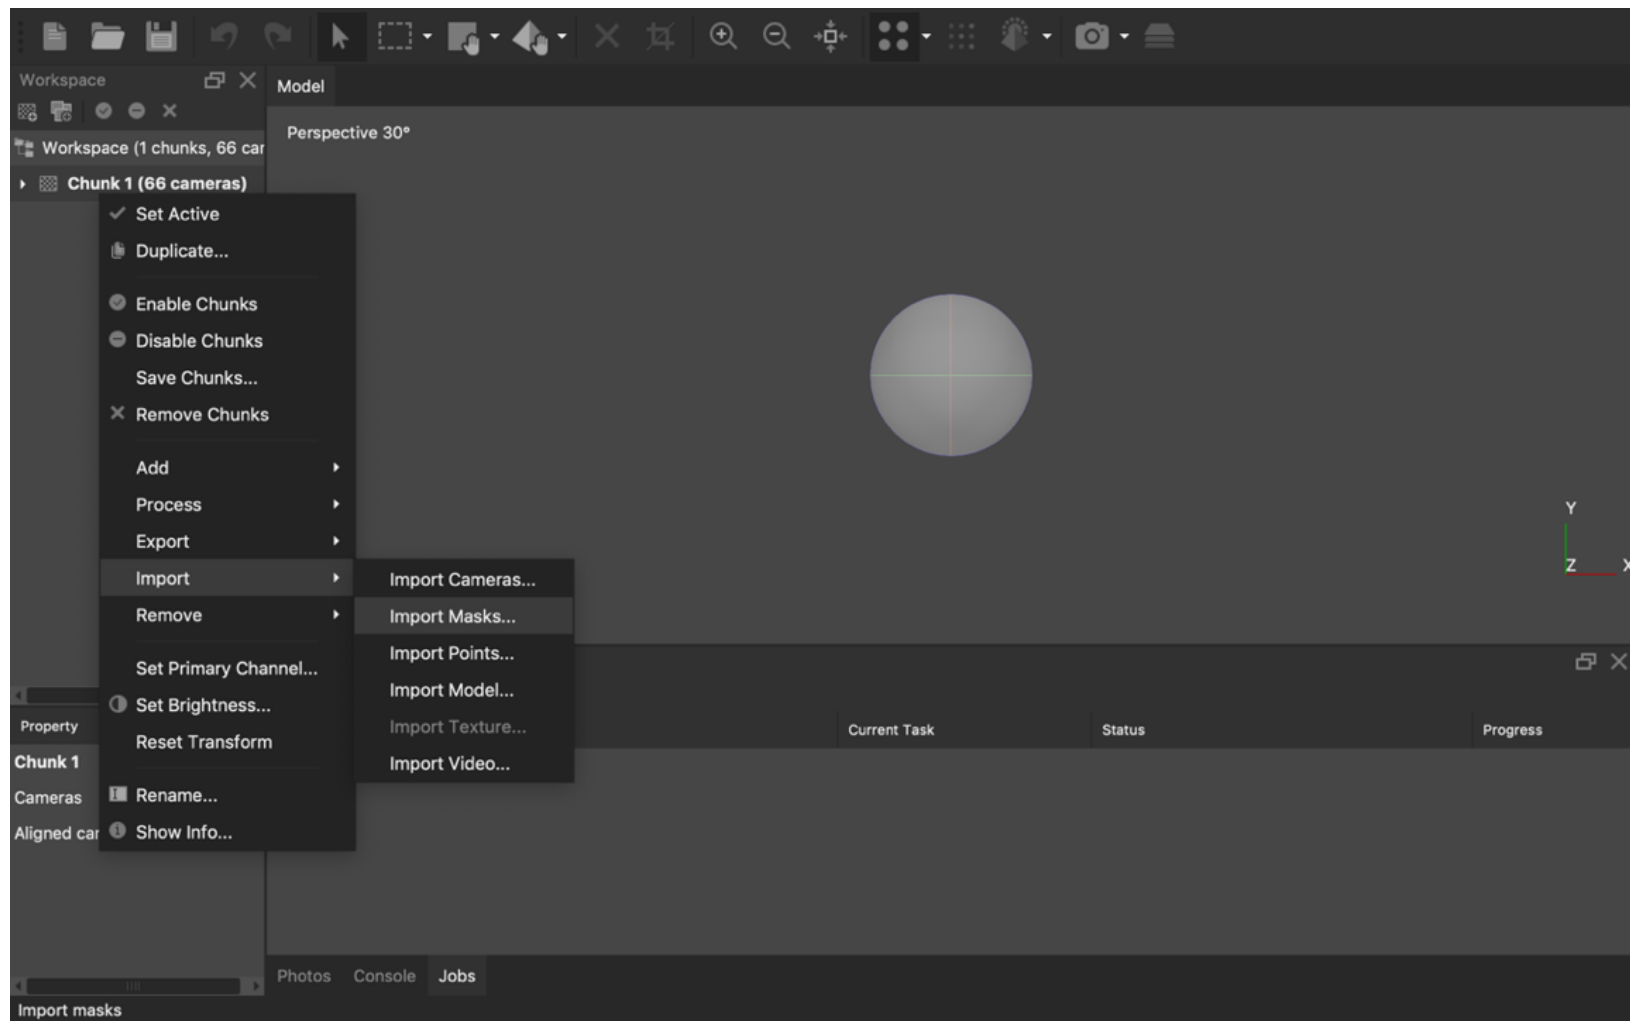
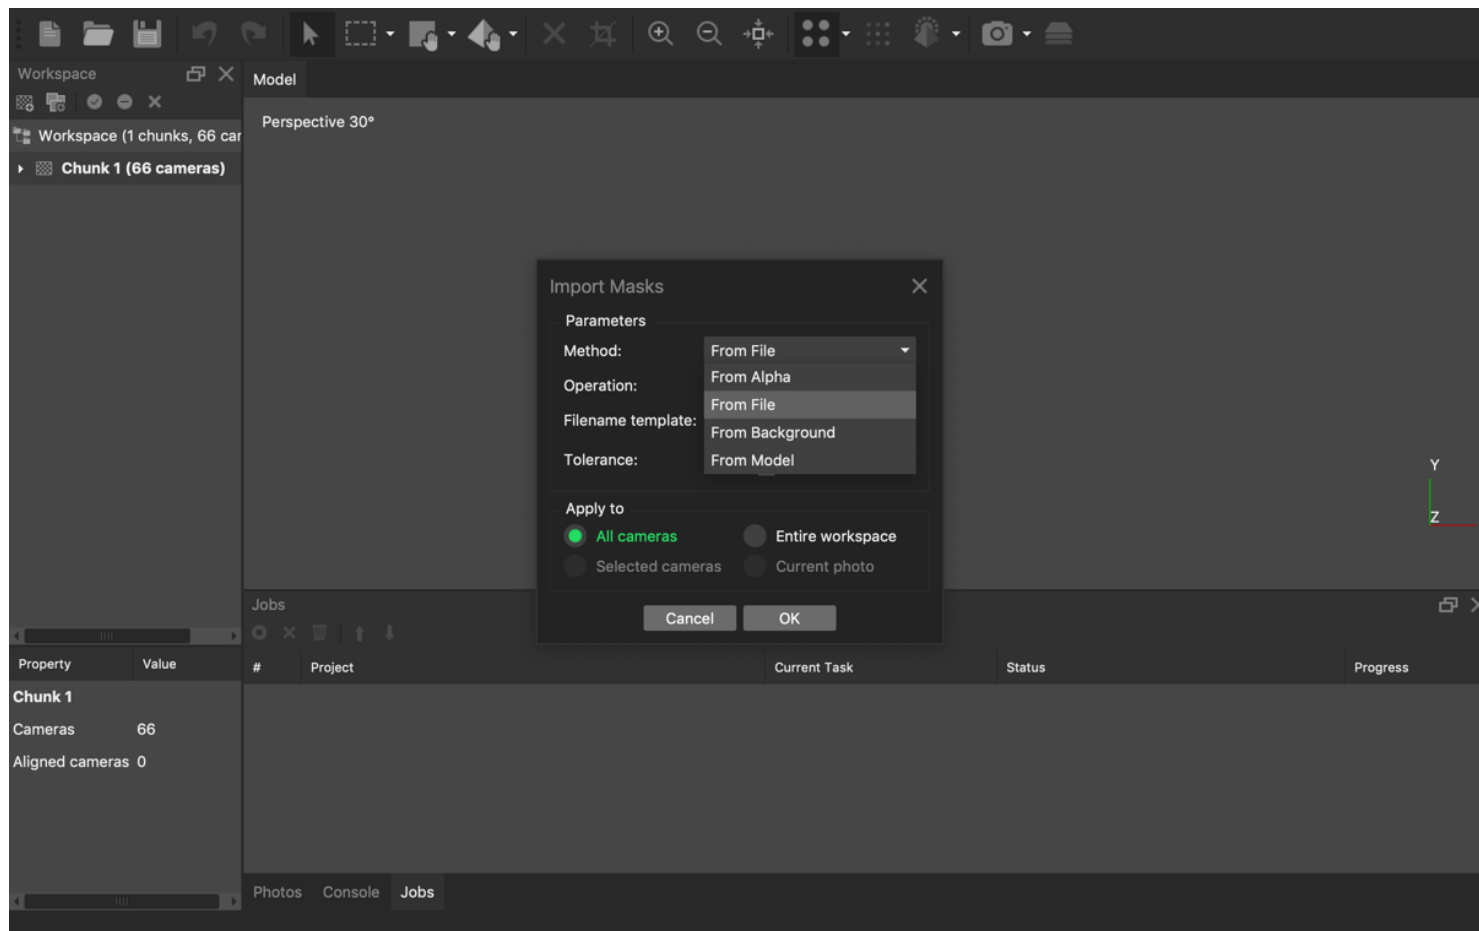

Figure 12. Importing masks in Metashape
Figure 13. Importing masks from file to Metashape
2. Right click on chunk 1, “Import Masks” (Figure 12), select “From File” (Figure 13) and select your masks folder (double check how the masks have been named, e.g. masks.png).